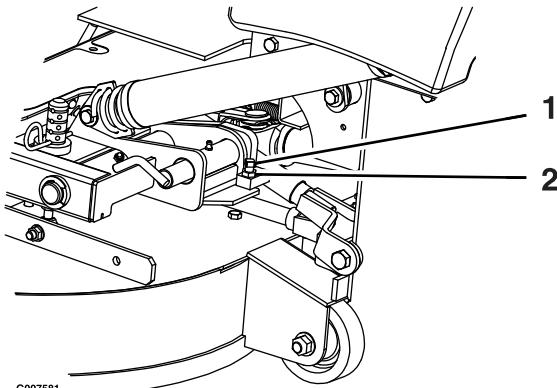

Figure 61
2. Loosen the jam nut and turn the stop screw clockwise until the locking pins are tight and cannot be rotated by hand (Figure 61).